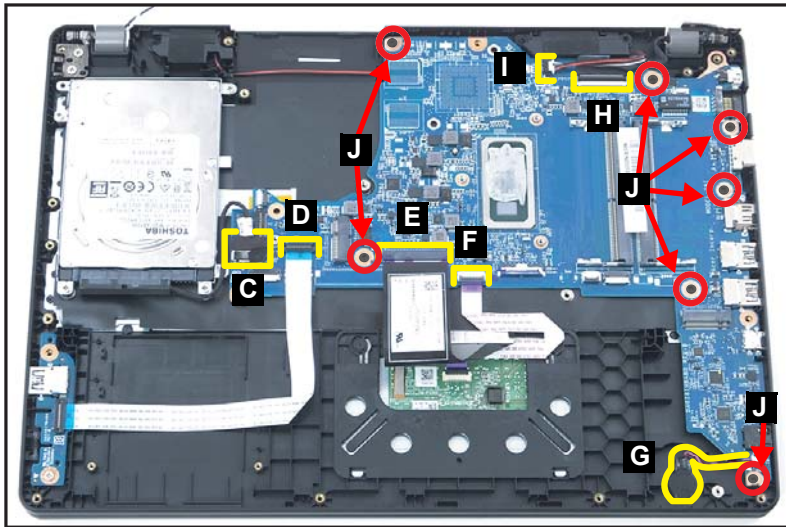

Figure 1-46. Mainboard Removal
5. Disconnect the HDD cable from the mainboard connector (C) (Figure 1-46).
6. Disconnect the USB board FFC from the mainboard connector (D) (Figure 1-46).
7. Disconnect the keyboard FPC from the mainboard connector (E) (Figure 1-46).
8. Disconnect the touchpad FFC from the mainboard connector (F) (Figure 1-46).
9. Pry to detach the adhesive tape underneath the RTC battery. Then remove the RTC battery (G) (Figure 1-46).
10. Disconnect the eDP cable from the mainboard connector (H) (Figure 1-46).
11. Disconnect the speakers cable from the mainboard connector (I) (Figure 1-46).
12. Remove seven (7) screws (J) securing the mainboard in place (Figure 1-46).